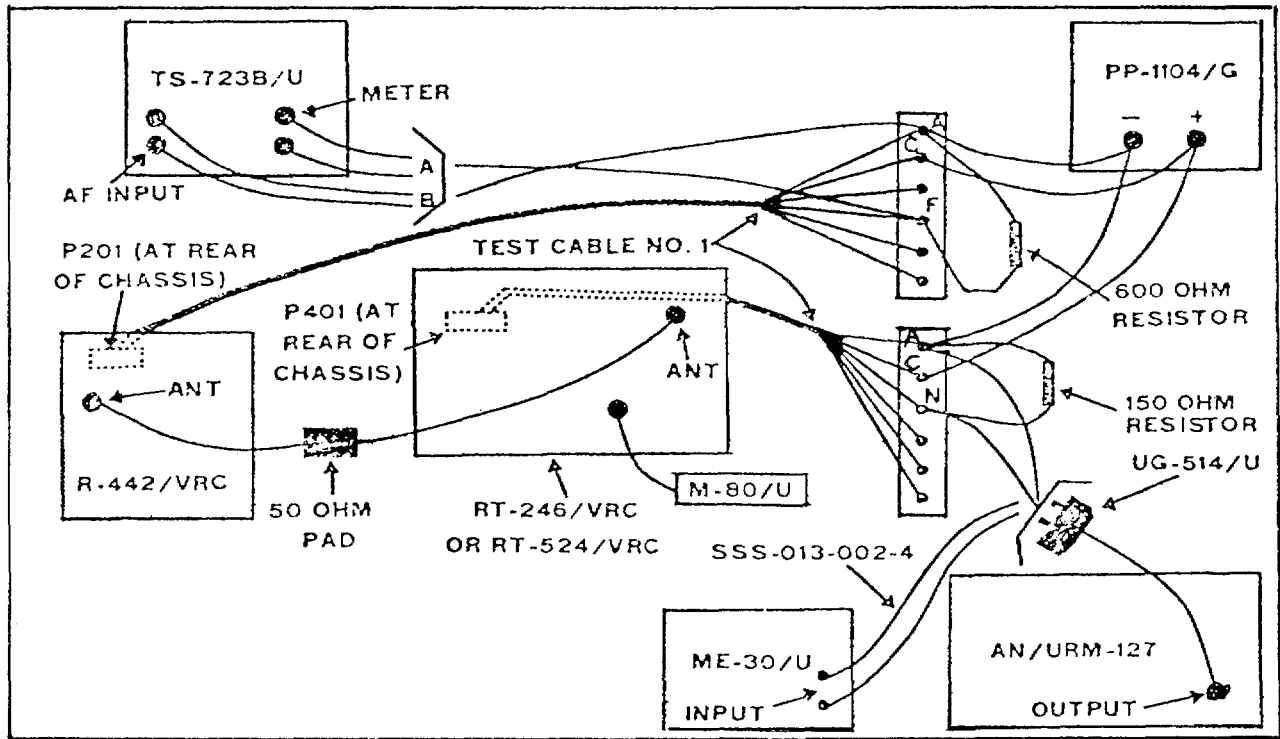

Figure B-4. Squelch Sensitivity (Noise/Tone).
- (1) Connect the test equipment in accordance with figure B-4.